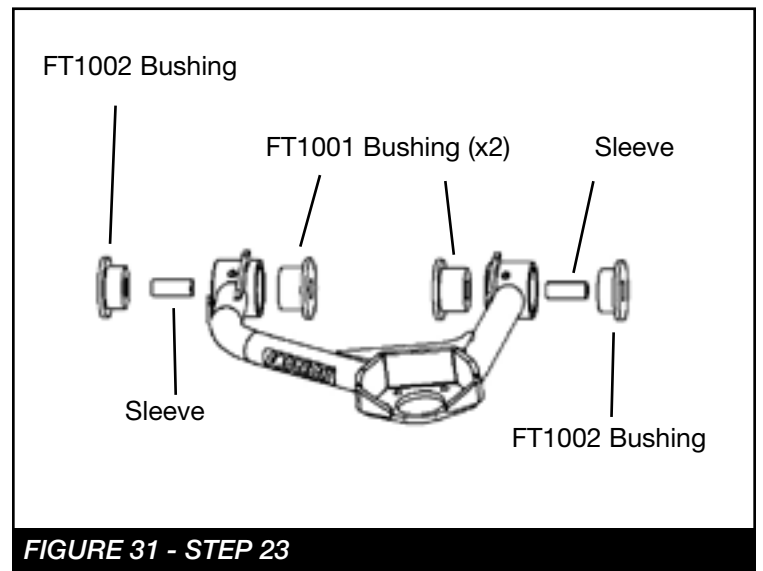

FIGURE 31 - STEP 23
23. Locate the new Fabtech control arms install, two FT1002 bushings, two FT1001 bushings, two grease zerks FT84, and two sleeves from the FT90118 (Bushing kit). **SEE FIGURE 31**